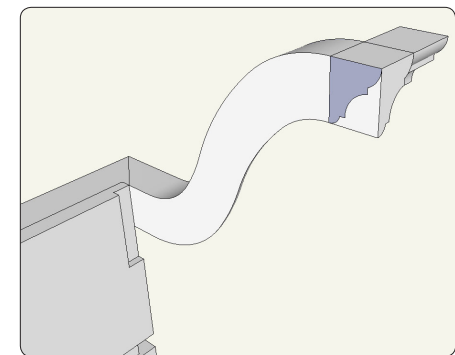
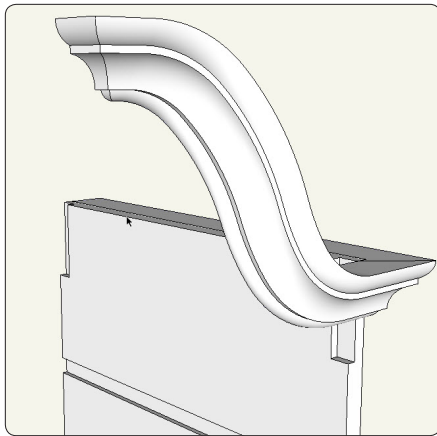

Figure 15. Copy the molding shape and place it on the rear of the gooseneck. Then push it through to intersect the gooseneck.
Figure 16. Once you remove the waste, you will have a gooseneck molding like this.
Step 3 The molding has a flat end at the peak of the gooseneck. It needs to be reshaped so that it has a molded corner return. Copy the molding shape and place it on the back face of the gooseneck, as shown in Figure 15. Select the Push/Pull Tool and tap the Ctrl key (Option on Mac). Push the shape out beyond the front edge of the molding. Select all the geometry, right-click, and choose Intersect Faces with Selection from the pop-up menu. Use the Eraser Tool to remove waste from the intersection, leaving the shape shown in Figure 16.